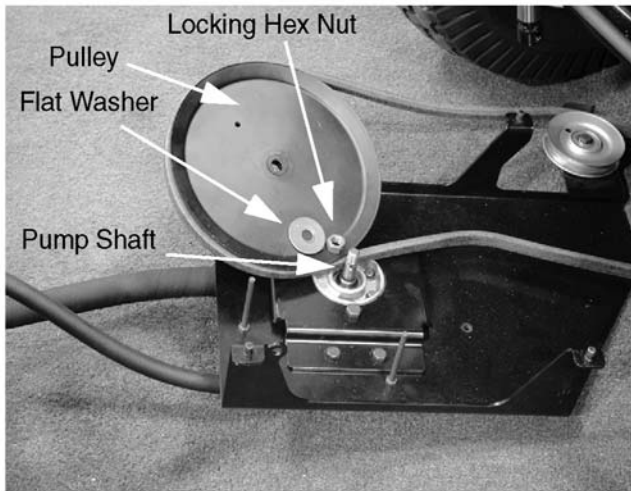

Figure 8-96.
15. Loosen the nut that secures the pulley to the pump shaft, using a 3/4" wrench. Loosen the nut until the top of the nut is flush with the top of the pump shaft. See Figure 8-96.